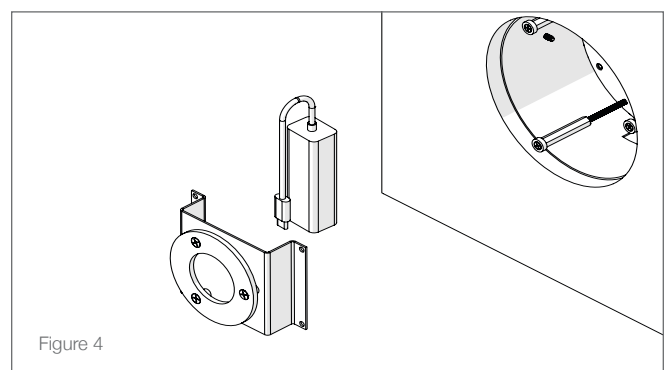

Figure 4
2. Insert the Josh Micro POE in a vertical orientation so that the connector is facing down and the corded portion of the connector is free (see Figure 4).